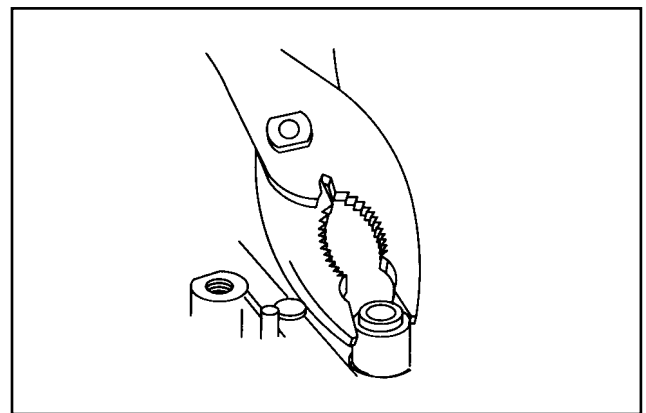

Fig. 11 - Remove Valve Stem Seal
2. Remove and discard intake valve stem seals, Fig. 11.